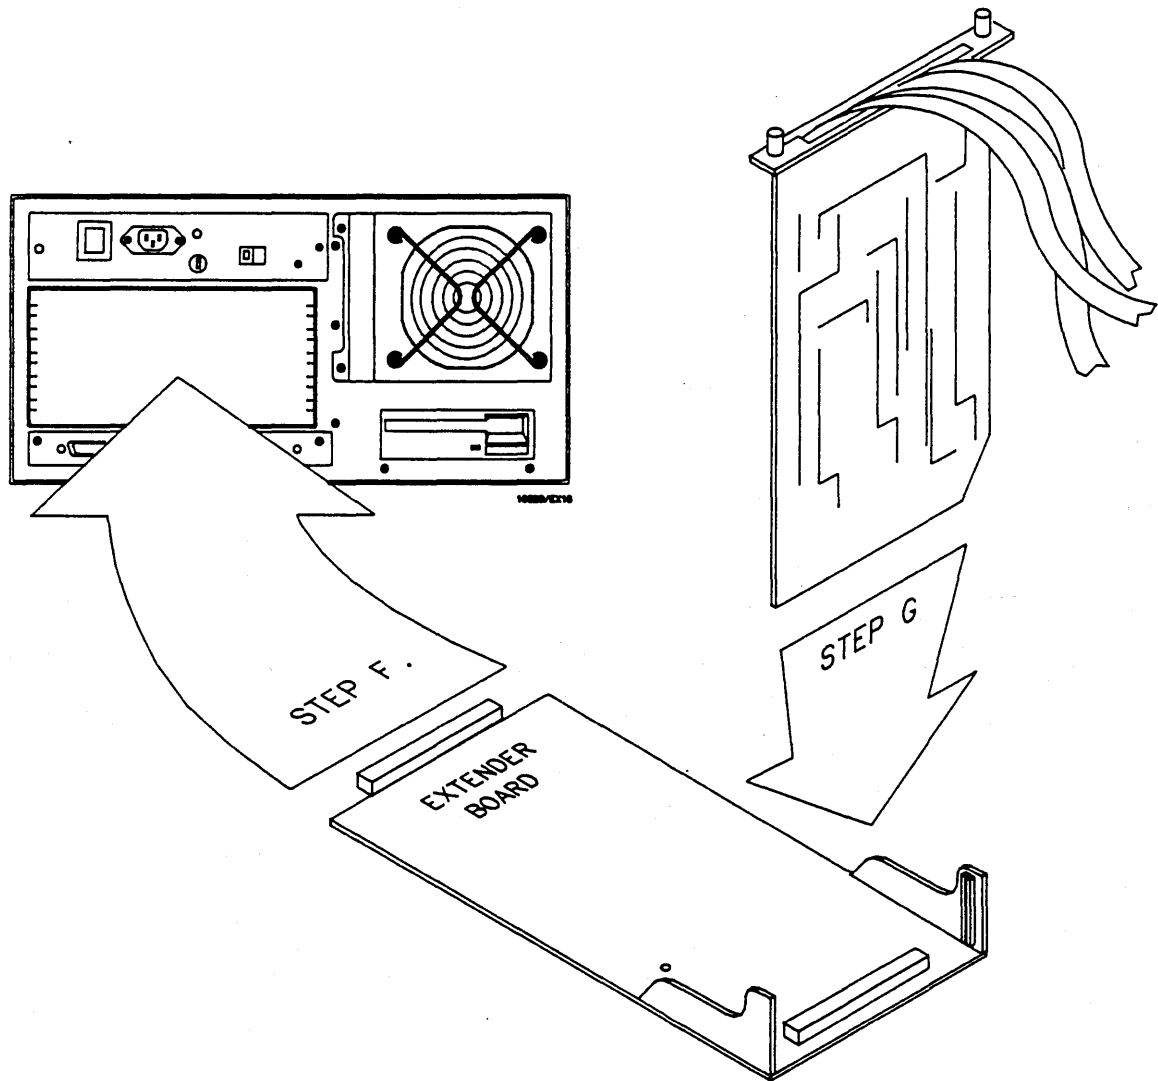

Figure 4-2. Extender Board and Module
- g. Plug HP 16520A Card into extender board. See figure 4-2.